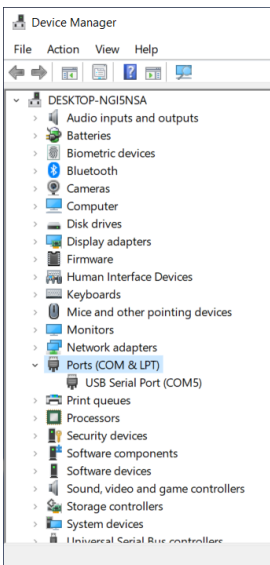

Figure 8: Device Manager - Ports
2. Once *Device Manager* is open, select the drop down arrow on *Ports*. You are now able to see what COM Port is assigned to the HART® modem. See **Figure 8**.